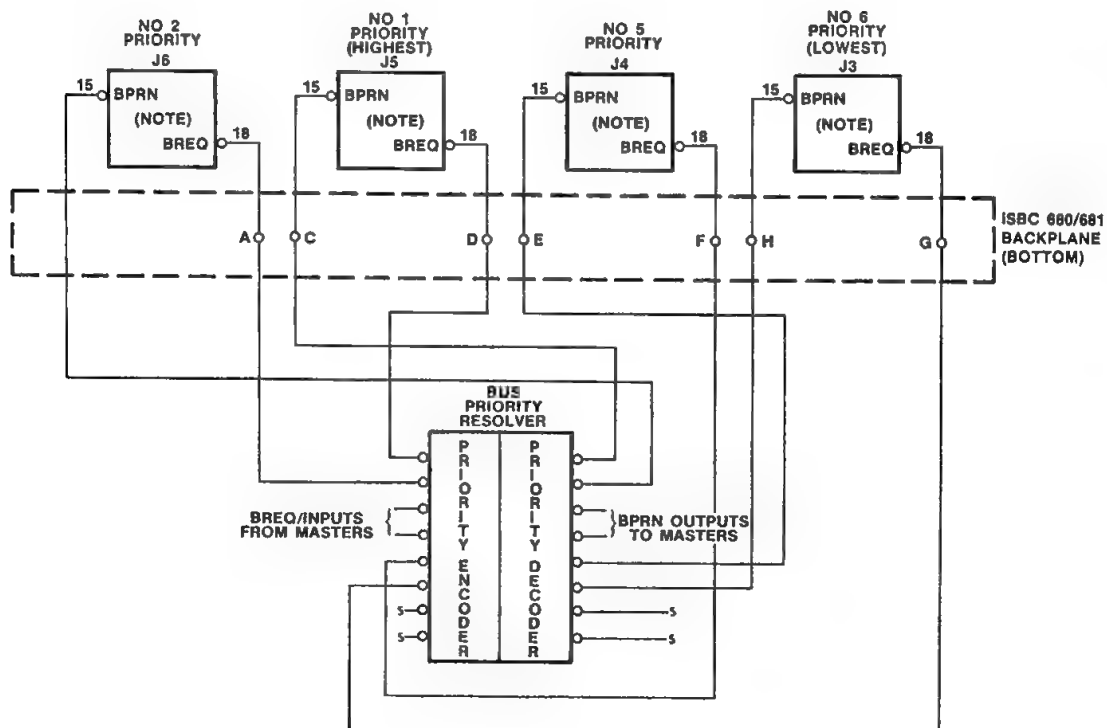
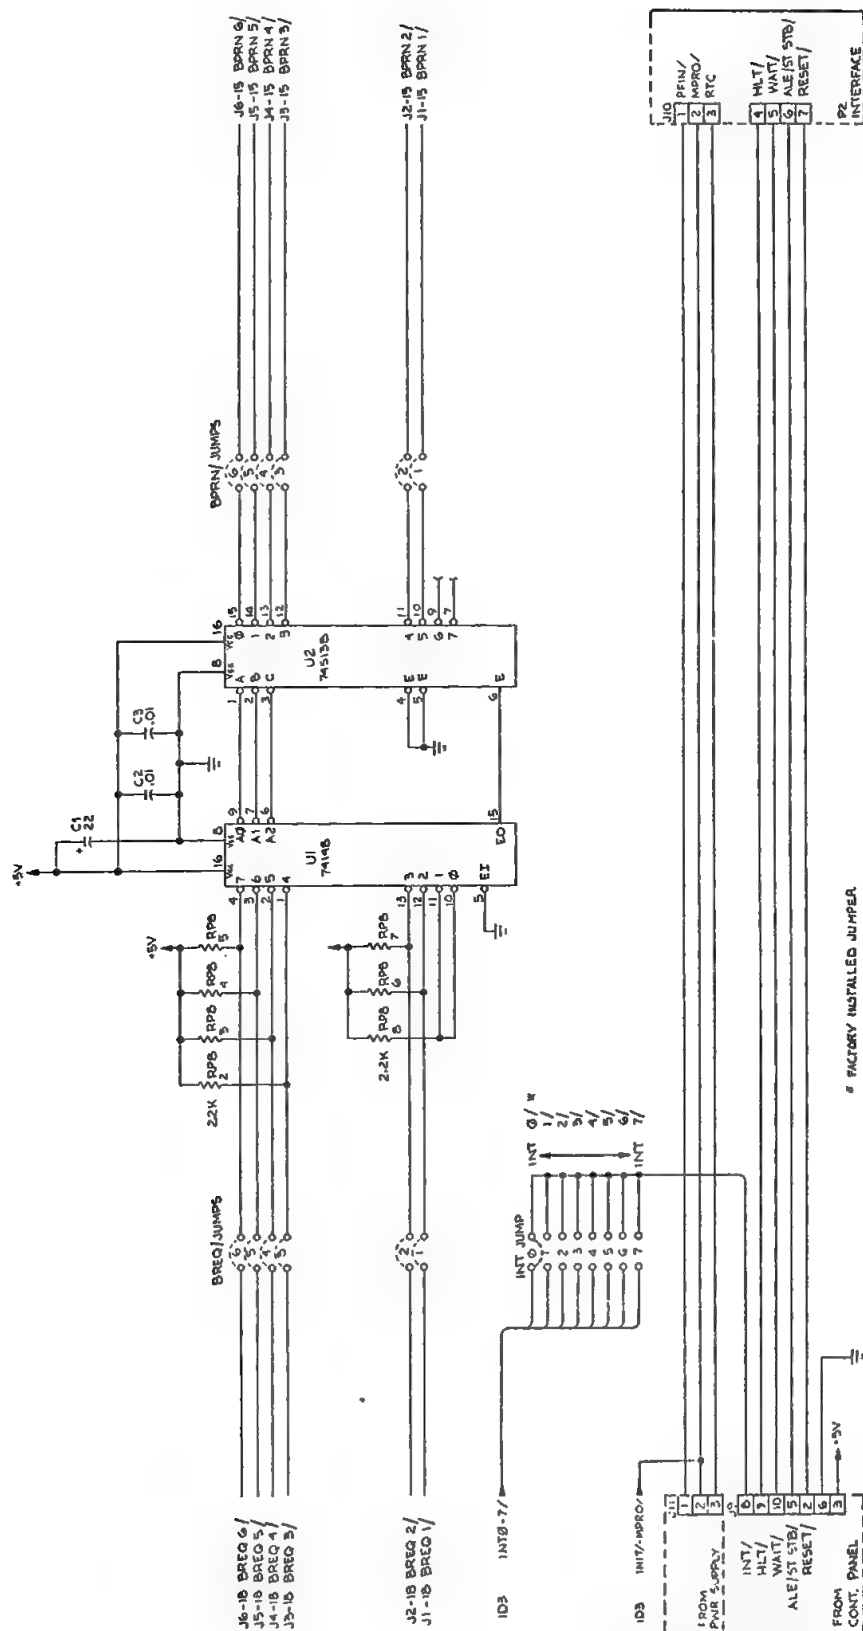
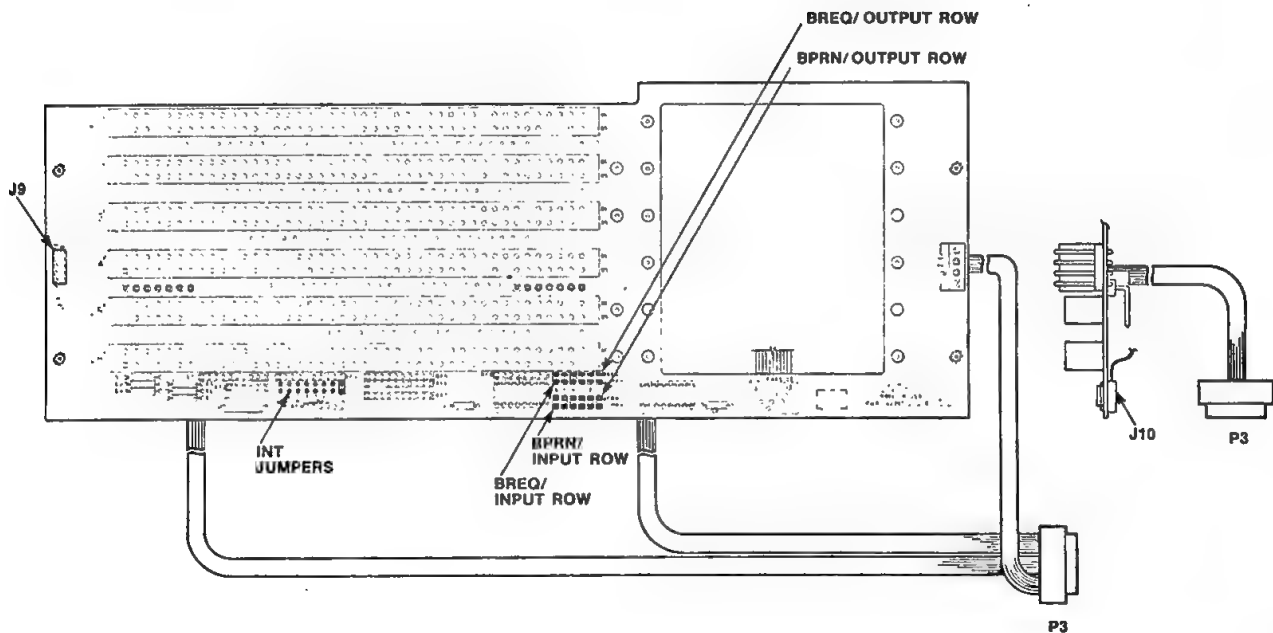

Figure 2-6. Parallel Priority Resolution Technique
Figure 2-7. Bus Priority and Interrupt Wiring Schematic
Figure 2-8. Backplane Jumper Location Diagram
The parallel priority resolution scheme allows up to six bus masters in a single system to acquire and control the Multibus lines. In the parallel priority technique, priority is resolved in a priority resolution circuit in which the highest priority BREQ/ input is encoded with a priority encoder chip (74148). The value is then decoded with a priority decoder chip (74S138) to activate the appropriate BPRN/ line. The BPRO/ lines are not used in the parallel priority scheme and thus are not connected on the backplane. Figure 2-6 illustrates a typical method for resolving bus contention in a system. Figure 2-7 illustrates the wiring diagram for the bus priority resolution scheme used on the iSBC 680/681. The BPRN/, BREQ/ and INT/ jumpers are shown in Figure 2-8.
- Remove the jumpers on locations 1 and 5 of both the BREQ/ and BPRN/ jumpers, see Figure 2-8.
- Install a wire-wrap jumper from the input of location 1 to the output of location 5 on both the BREQ/ and BPRN/ jumpers, see Figures 2-7 and 2-8.
The input of each location is on the right side of the jumper and the output is on the left side of the jumper, as the operator faces the unit (see figure 2-8).
The Interrupt Pushbutton switch is wired to interrupt level 0 (Multibus P1-41) by the factory. To change the interrupt level it is necessary to change the INT/ (Interrupt Request Line) jumper on the cardcage assembly. The interrupt jumper is changed by removing the current INT/ jumper and replacing it in another INT/ jumper location. The numbers on the cardcage INT/ jumper locations correspond directly to the Multibus P1 Interrupt pins 35 to 42, see Figures 2-7 and 2-8.